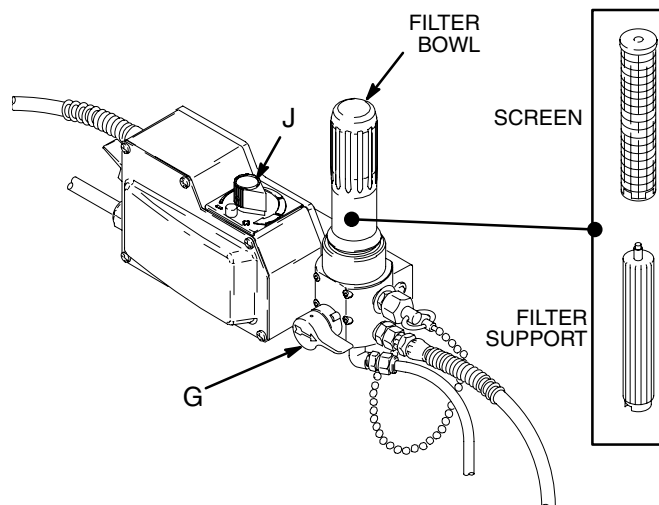

Fig. 8
- Turn pressure adjusting knob (J) fully counter-clockwise to zero pressure.
- Remove spray tip from gun. See Fig. 8. Remove filter bowl, filter support and screen. Clean screen separately and install bowl without screen or support to flush it.
- Put suction tube into a grounded metal pail with 1/2 gallon of compatible solvent. Close pressure drain valve (G).